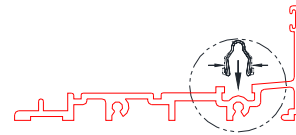

Figure 30:
3. Using a rubber mallet, tap the track into the sill (Figure 30).